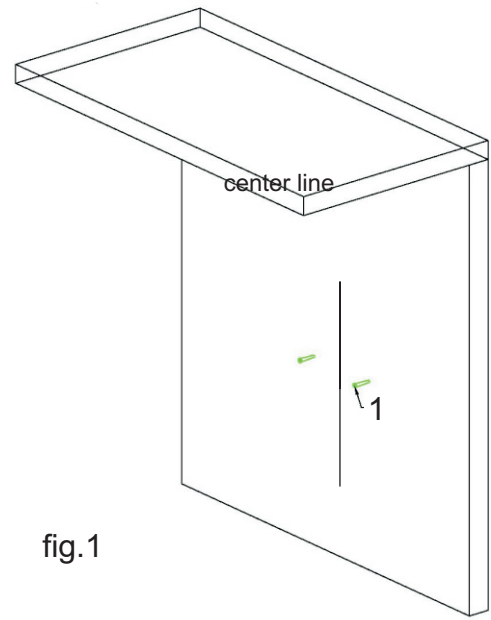

fig.1
**Step one:** Find the center of the wall where you are installing the hood. Make sure there is sufficient bracing to hold the weight of the hood. Mark your center line and measure out from center to find your two mounting points. Make sure your mounting points are level when you mark them. It is recommended to install the hood directly into wood supports. fig 1
**Step two:** Mark your mounting points and install the two mounting screws provided leaving the heads out 1/4" to mount hood. fig 1